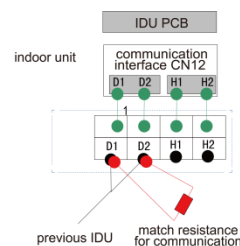

Fig 5.3.2
- (4) Secure the communication line with the wire clamp on the electric box.
- (5) In order to ensure the reliability of communication between IDU and ODU and the communication among each IDU, add a matched resistance (supplied in a package before ex-factory) on the wiring board of the last indoor unit in a series connection. The matched resistance should be connected in parallel between terminal screw D1 and D2, as shown in Fig.5.3.2.